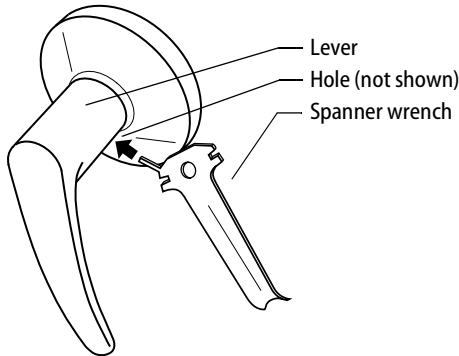

Figure 1 — Removing the lever
- 1 Disengage the lever by pushing the pointed end of the spanner wrench into the hole on the lever. Slide the lever off. See Figure 1.